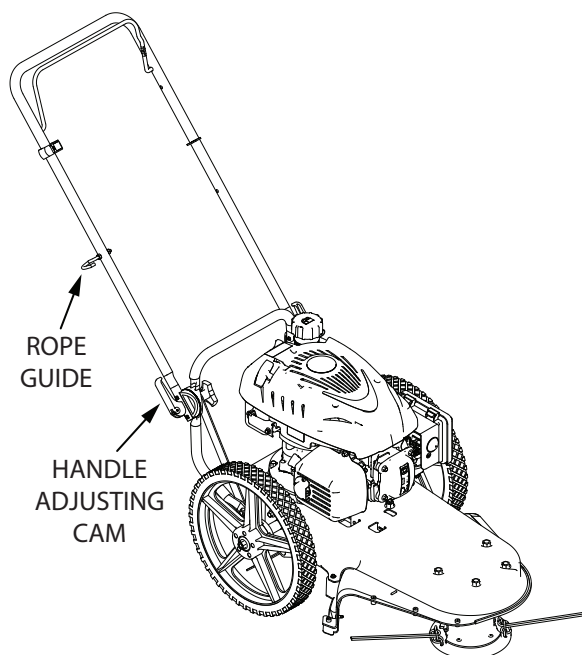

FIGURE 3: Adjusting the Handle Bars.
5. To attach the recoil start handle to the rope guide, twist the rope through the rope guide mounted on the right side of the handle. **SEE FIGURE 3**